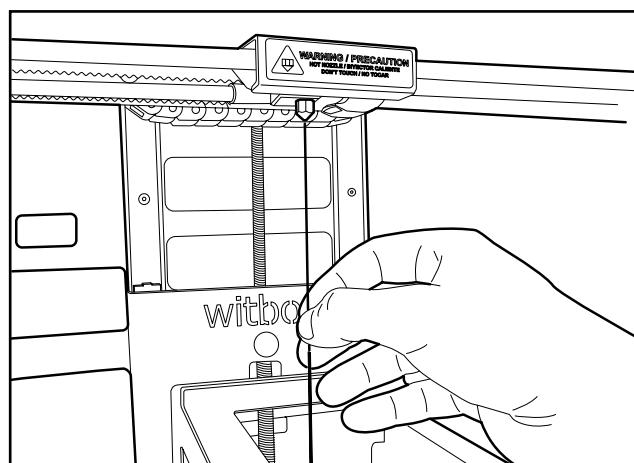

Figure 6.3 Insert a needle into the nozzle
- 6 Insert one of the needles (supplied with the printer) into the nozzle and drag out any leftover filament that may be there (fig. 6.3).